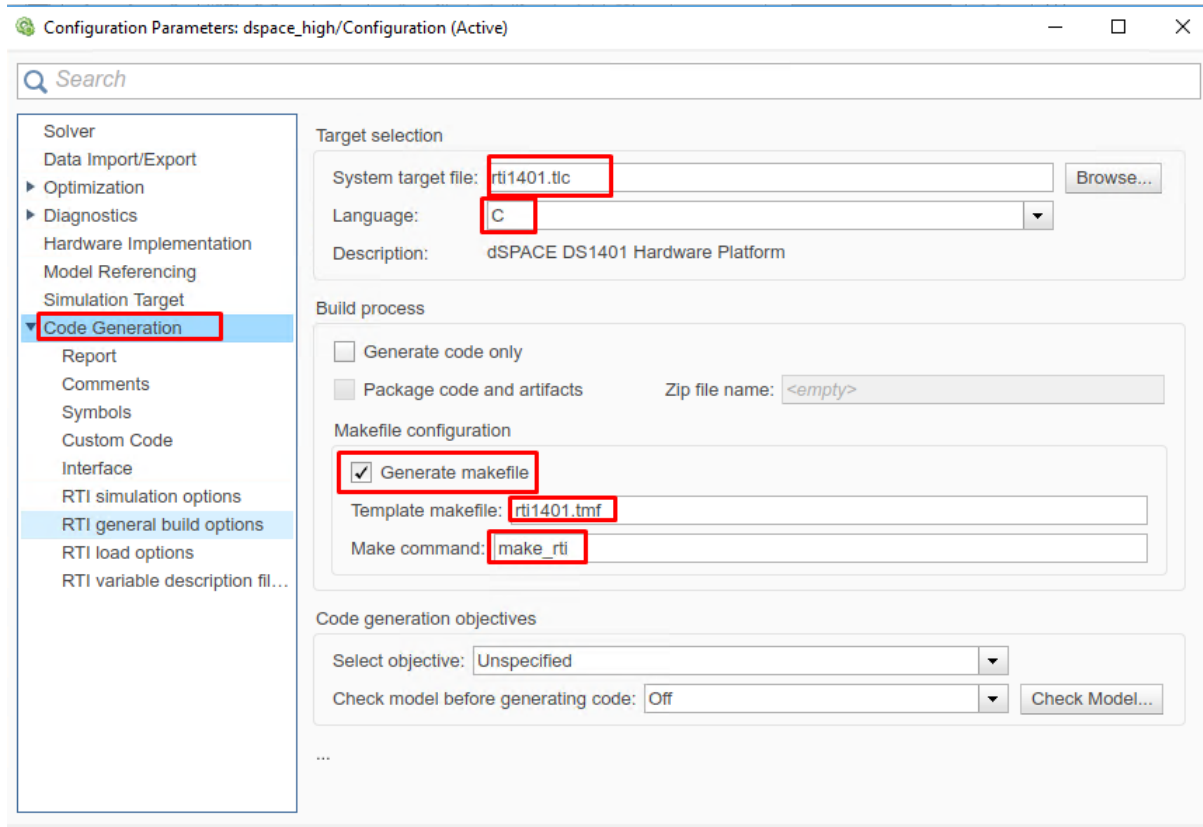

Figure 5.6: Configure Code Generation for dSPACE MicroAutoBox II
- 3) When creating the Simulink Model, in the Configurations, in the “Code Generation” tab, set the options (see Figure 5.6 below):